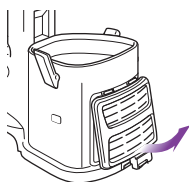

Fig. 24
- 1 Remove the filter cover from the front of the vacuum by pulling up on the tab and pulling the cover away from the vacuum. **(Fig. 24)**